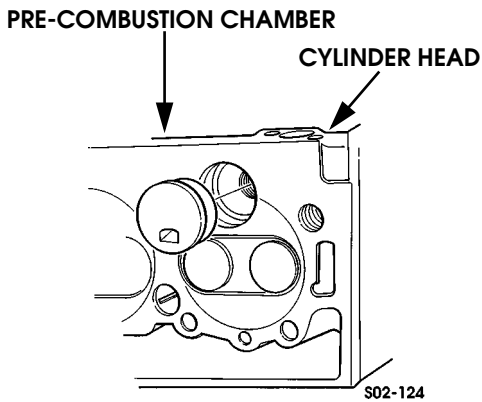

Figure 2-158: Pre-combustion Chamber Removal
6. Mark position of pre-combustion chambers in each cylinder head (Figure 2-158). Ideally, chambers (if reused), should be installed in same location in head.
7. Remove prechambers from cylinder heads (Figure 2-158). Use a round pry tool to loosen and start each chamber out of seat in cylinder head.